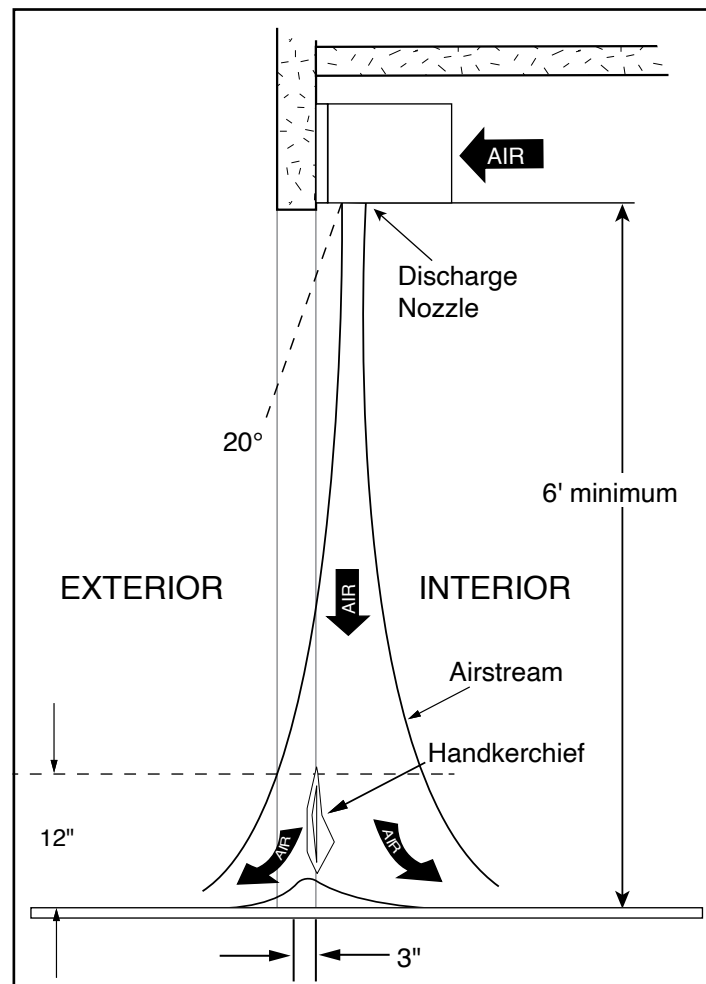

Figure 13 - Air Stream Adjustment
- Find the air stream split location. Hold a handkerchief by its corners, approximately 12" above the floor. Gently move the handkerchief back and forth in the doorway. Make sure the air is being directed to both the inside and the outside. **See Figure 13.** The split location is indicated where the handkerchief is vertical with minimal or no fluttering.